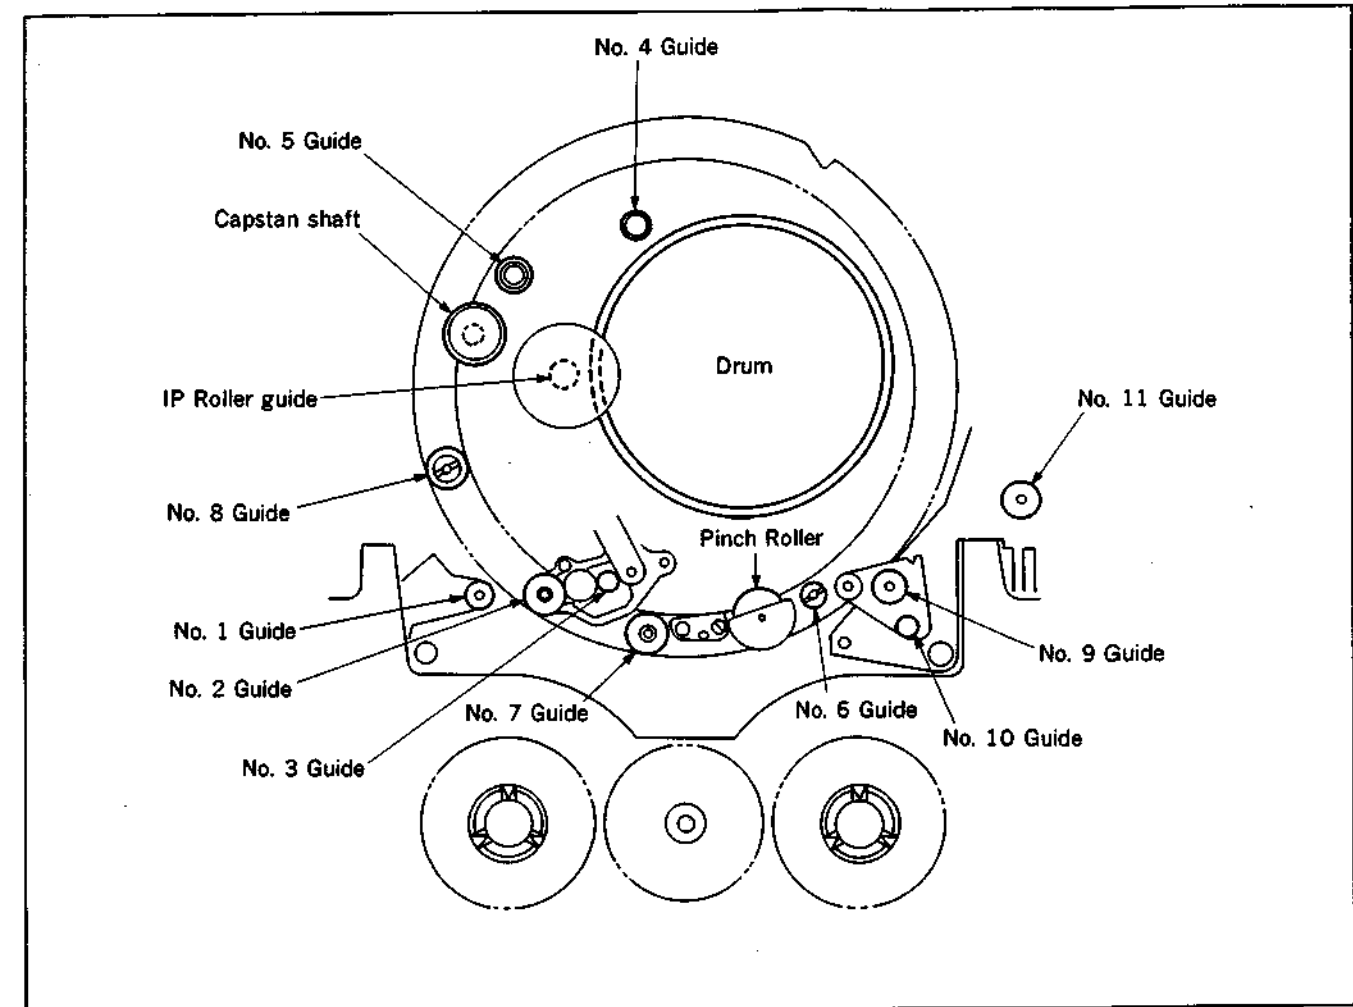

Fig. 3-1-1 Tape Path (Unthreading-end position)
(2) Cleaning Tape Running System (Fig. 3-1-1)
(3) Cleaning Drive System